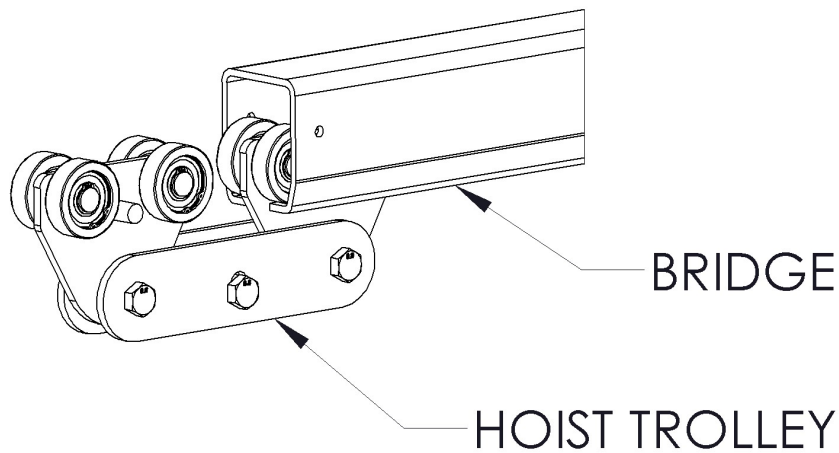

Figure 8: Hoist Trolley
13. On the end currently without an end stop insert the hoist trolley see figure 8